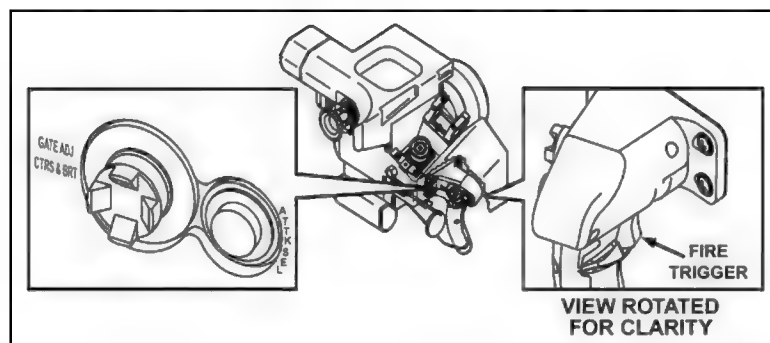

Figure 2-6. Right handgrip controls.
d. **Right Handgrip Controls.** The right handgrip has the following controls: the attack select (ATTK SEL) switch, the gate adjust/contrast and brightness (GATE ADJ/CTRS & BRT) switch, and the fire trigger (Figure 2-6, page 2-4). The controls on the right handgrip:
(1) **Attack Select Switch.** The attack select (ATTK SEL) switch is the right switch on the two-switch console on the right handgrip (Figure 2-6). It is a pushbutton switch that toggles between the top attack and direct attack modes. The top attack mode is the default attack mode and is automatically selected when the seeker is activated.
(2) **Gate Adjust/Contrast and Brightness Switch.** The gate adjust/contrast and brightness (GATE ADJ/CTRS & BRT) switch (Figure 2-6) is the left switch of the two-switch console on the right handgrip. It is a self-centering switch that moves up, down, left, and right. This switch serves two functions depending on whether the CLU display image is from the NVS or the seeker. To change the mode of attack, the gunner must be in Seeker FOV.
(3) **Fire trigger.** The fire trigger is on the front side of the right handgrip at the index finger level (Figure 2-6). When the gunner acquires a missile lock-on target squeeze and hold seeker trigger, he squeezes the fire trigger to launch the missile.